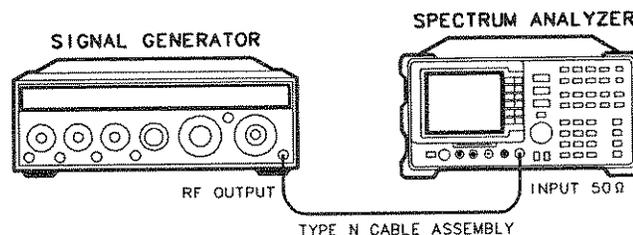

Figure 4-5. System Related Sidebands Test Setup
2. Connect the equipment as shown in Figure 4-5. *Option 026:* Use the APC adapter to connect the cable to the analyzer input.